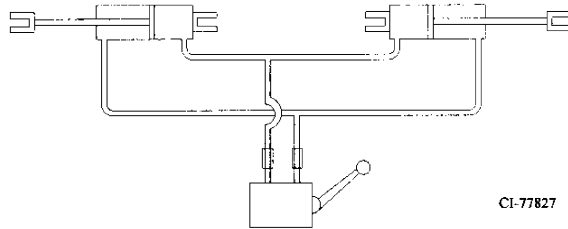

Fig. 3 Two Cylinder Wing Lift Circuit
Fig 3 shows a simple two (2) cylinder circuit used to fold a pair of wings. This system is used on Wil-Rich field cultivators with a single pair of 4'8" or 7' folding wings.